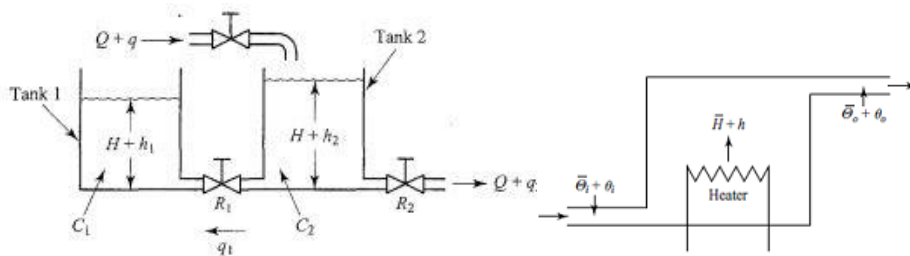

Fig.Q.1A
- 1A.** Consider the liquid-level system shown in Fig.Q.1A. Obtain the transfer function for the system when q is the input and h_2 is the output. 5